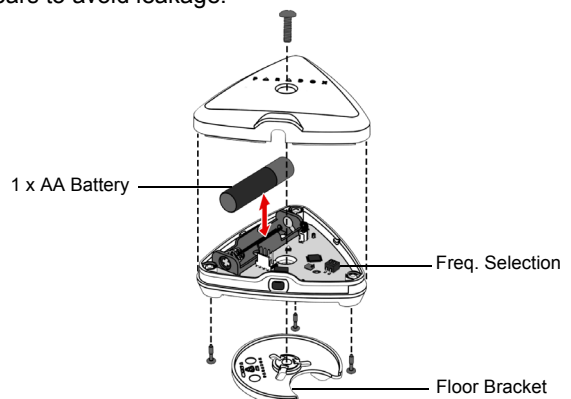

FIGURE 3
- 2a. **Bracket:** Remove the bracket installed under the WD1. Remove the double-sided tape protective film from the bottom of the bracket and secure bracket to the floor. Align the WD1 to the bracket until it snaps into place. Secure the mounting screw using a Phillips screwdriver, as shown in Figure 3.
- 2b. **Without Bracket:** Secure an appropriate flat-head screw using a Phillips screwdriver, as shown in Figure 3.
5. Remove the old battery and replace with a new battery (verify the polarity and insert properly + and - marked on the battery terminals), see Figure 3.